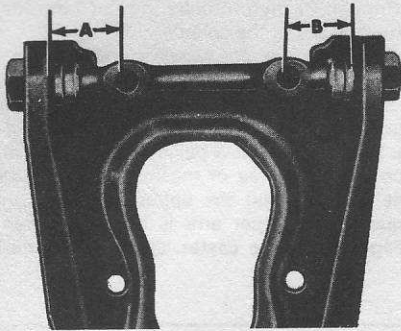

Fig. 11.11 Centering the upper arm shaft (Sec 9)
- 4 Center the shaft in the suspension arm. Refer to Fig. 11.11 and screw in the bushings until the dimensions A and B are equal.